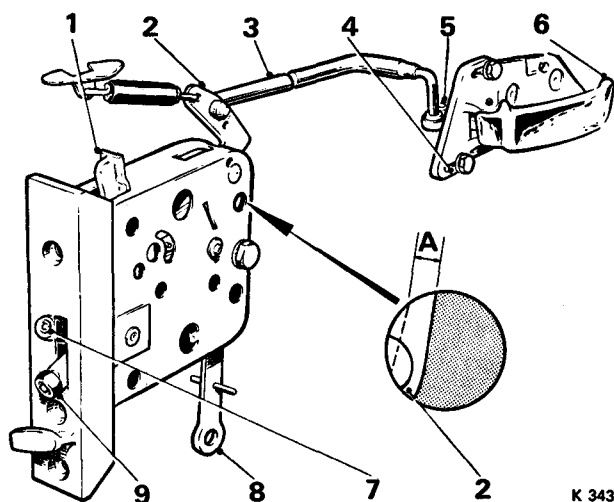

FIG. S17 INTERIOR DOOR HANDLE ADJUSTMENT (4-Door Saloon and Long Wheelbase Cars after Car Serial Number 5000)
This travel can be checked by looking through the door pressing aperture and checking the travel of the lock remote control lever which is controlled by, and travels exactly the same distance as, the contactor lever (see Fig. S17, Inset).
- (b) **Cars after Car Serial Number 5000.** Fit the door lock and control rods noting that there are two bushes fitted into the interior door handle mounting bracket (see Fig. S17); fit the remote control rod to the rearmost bush. Take up all free play in the handle-to-lock linkage by adjusting the position of the interior door handle on its elongated holes.